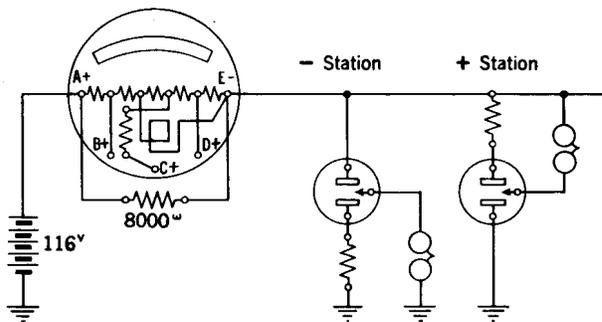

Fig. 12 - Test for Positive Tube Type Station
5.23 To test for a positive station, operate the +STA key; for a negative station, operate the -STA key. See Fig. 12 for a schematic of the connections with the +STA key operated. Note the reading of the meter.